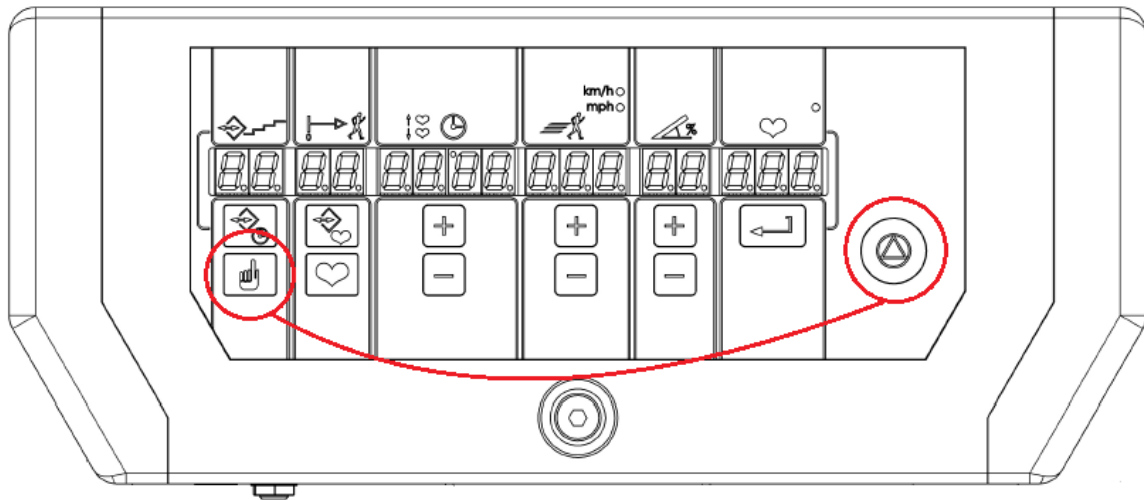

Figure 1
1. Press and hold the two keys as shown on “figure 1” for 10 seconds.